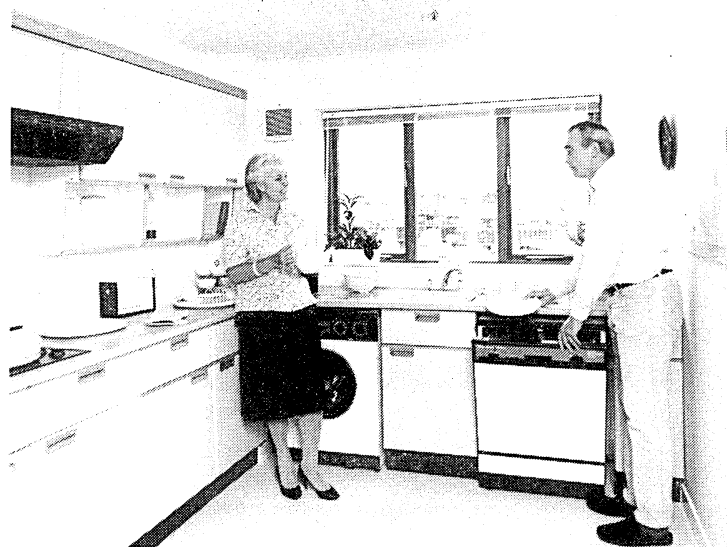

Figure 1 A modern kitchen like this has many electrical appliances
*Acknowledgements* Much of this unit is based on ideas from the 'Energy at Home' unit of the PLON physics project based at the State University of Utrecht, 3508 TA Utrecht, The Netherlands. Figure 1 supplied by the Electricity Council.